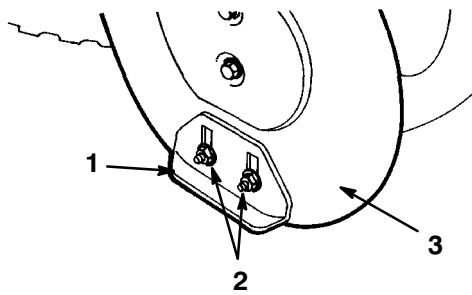

Figure 26
- Loosen the four flange nuts that secure both skids to the auger side plates (Fig. 26) until the skids slide up and down easily.
- Tighten the four flange nuts that secure both skids to the auger side plates (Fig. 26).